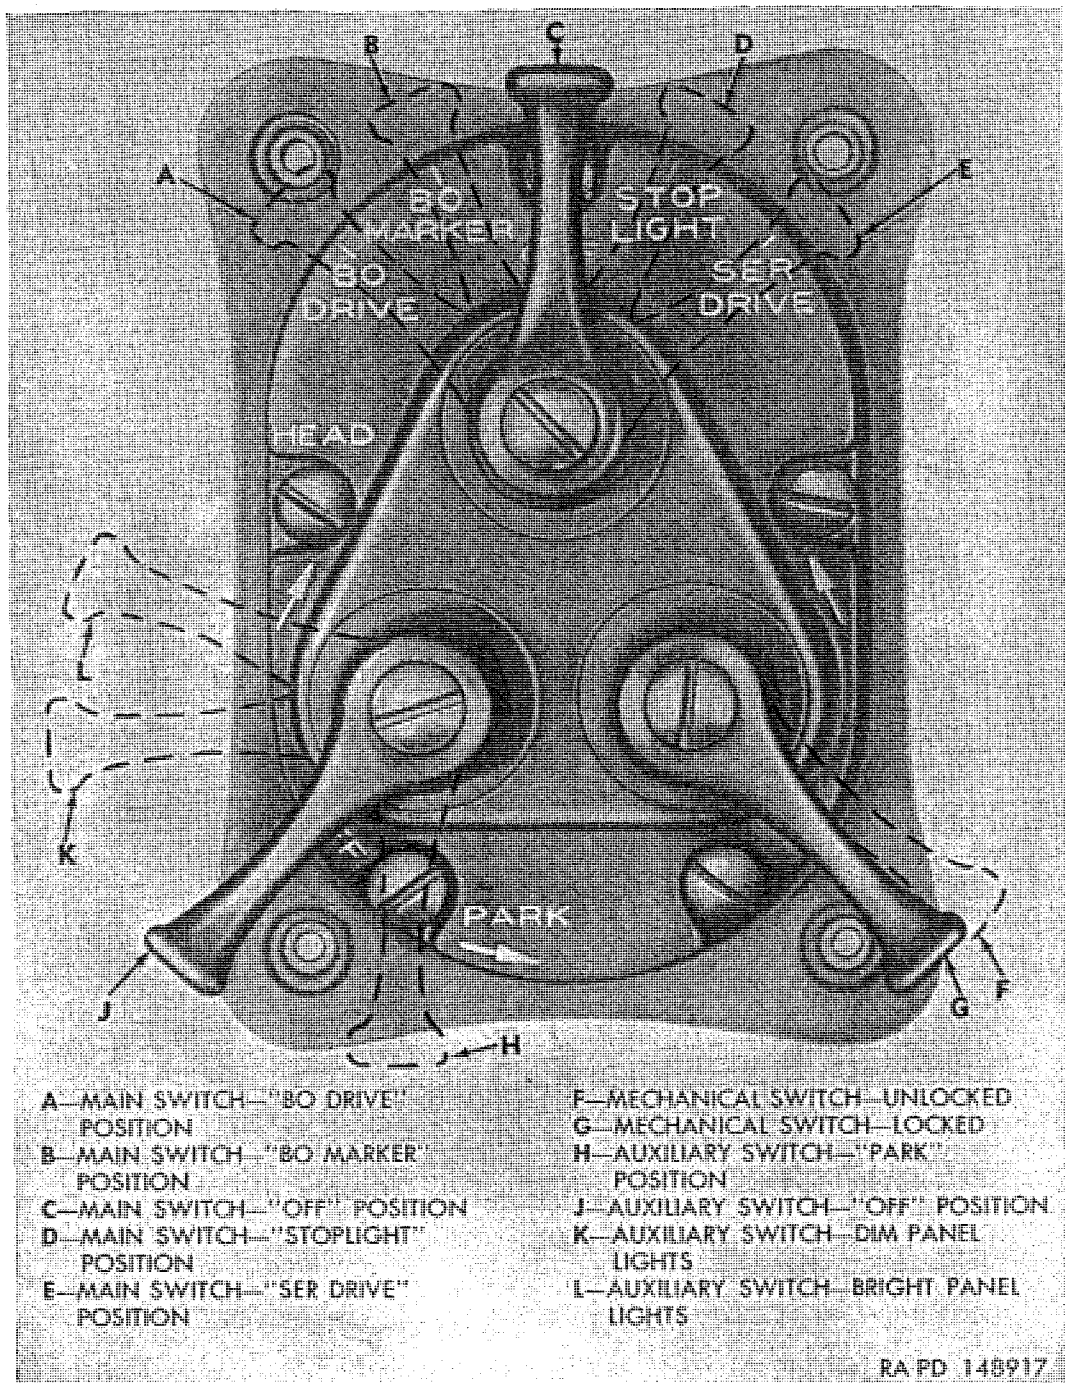
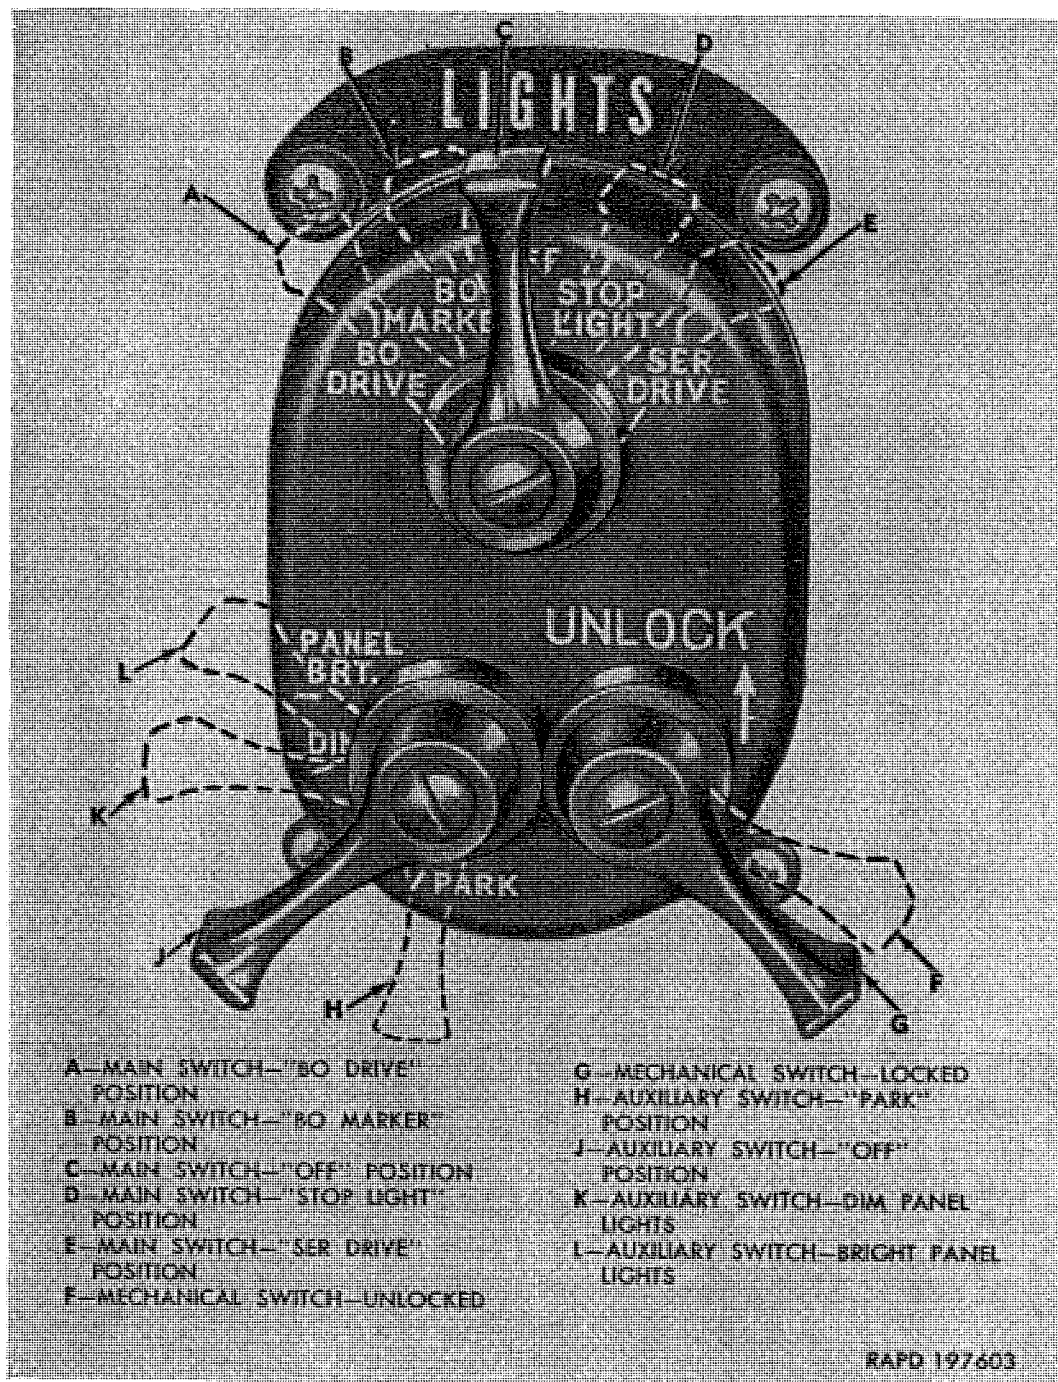

Figure 38. Main light switch (early M135).
Figure 39. Main light switch (late M135 and all other models).
- (2) *Applying trailer brakes.* Trailer brakes are applied and released simultaneously with truck brakes by use of the truck service brake pedal. When trailer brake hand control valve is used (*a*(3) above), valve may be set to produce a slight drag on trailer when descending a grade, or trailer brakes alone may be applied by valve when stopping on slippery surface to avoid jackknifing. Application of truck brake pedal, however, will overrule partial hand control valve setting.
a. Main Light Switch Levers. All lights are controlled by a three-lever main light switch (fig. 38 or 39) located on instrument board as shown in Y, figure 29. Light switch shown in figure 38 is used on early M135, while switch shown in figure 39 is used on late M135 and all other models. The late switch (fig. 39) is more adequately marked at mechanical and auxiliary switch positions. Both switches, however, operate the same.
- (1) *Main switch lever.* The five-position main switch lever is located at upper part of switch with lever pointing up (fig. 38 or 39). This lever can be positioned to control all lights except instrument cluster lights and parking lights. The mechanical (or locking) switch lever must be raised up (toward UNLOCK, F, fig. 39) when positioning main switch lever to BO DRIVE, STOPLIGHT, or SER DRIVE positions.
- (2) *Auxiliary switch lever.* The auxiliary switch lever is located to the left and below main switch lever (fig. 38 or 39). This lever may be positioned to control parking and instrument cluster lights when main switch lever is in positions as explained in *b* below.
- (3) *Mechanical switch lever.* The mechanical (or locking) switch lever is located to the right and below the main switch lever (fig. 38 or 39). This lever must be held in a raised position (toward UNLOCK, F, fig. 39) before main switch lever can be positioned to BO DRIVE, STOPLIGHT, or SER DRIVE positions.
- b. Operation of Main Light Switch (fig. 38 or 39).*
- (1) *OFF position.* When main switch lever is in OFF position, all lights are off.
- (2) *BO MARKER position.* When main light switch is turned to left to BO MARKER position, circuits for front blackout marker light, blackout stoplight, and blackout taillights are energized. The auxiliary switch lever can be turned to positions shown in figures 38 and 39 for dim or bright instrument cluster lights.
- (3) *BO DRIVE position.* The mechanical switch lever must be held raised to UNLOCK position while main switch lever is
- (5) *SER DRIVE position.* The mechanical switch lever must be held raised to UNLOCK position while main switch lever is positioned to SER DRIVE. Main switch lever can be placed into SER DRIVE from STOPLIGHT position without raising the mechanical switch lever. When main switch lever is in SER DRIVE position, right and left service lights and left service taillight are energized. Left service stoplight will illuminate when vehicle service brakes are applied.
- (6) *PARK position.* After main switch lever is placed into SER DRIVE position, auxiliary switch lever can be placed into PARK position to illuminate right and left front parking lights and left service taillight. With main switch lever remaining in SER DRIVE, the placing of auxiliary switch lever into OFF, or into DIM or BRT panel light positions, will again illuminate service headlights.
- (7) *Instrument cluster lighting.* With main switch lever in any position except OFF, auxiliary switch lever can be turned to left from OFF to positions shown on figures 38 and 39. Auxiliary switch illustrated in figure 39 has marked positions under PANEL of BRT and DIM.